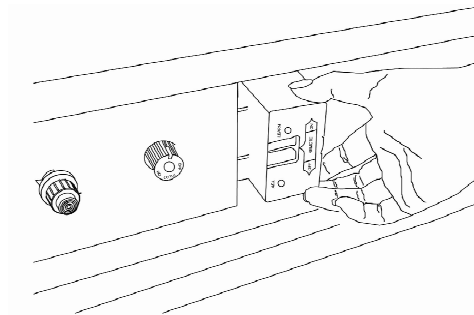

Figure 14
1. Take Control Box out from Control Panel. (See Figure 14 )